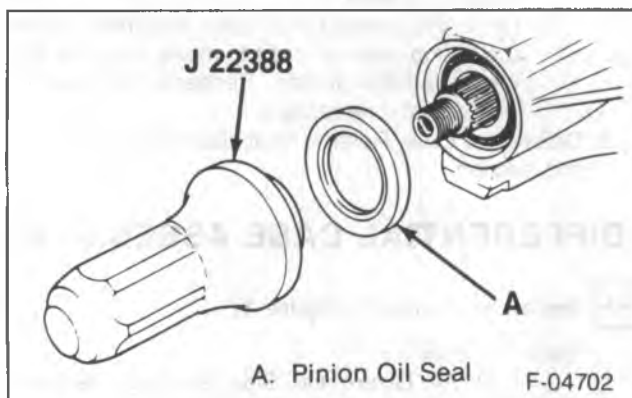

Figure 14—Installing the Pinion Oil Seal
1. The pinion inner bearing (5) using J 8609-01.
2. A new collapsible spacer (4).
3. Pinion (7) to the axle housing.
4. Outer pinion bearing (39) onto the pinion using J 5590.
5. Pinion oil seal (38) using J 22388 (figure 14).
6. The pinion flange (37) to the pinion by tapping it with a rawhide hammer until a few threads show through the pinion flange.